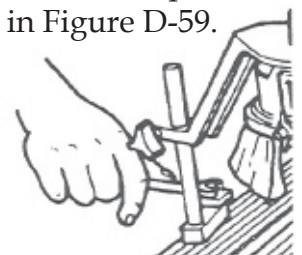

Figure D-59
- Place the guard assembly's base clamp to the right rear edge of the worktable and tighten the knob on the bottom of the clamp with a 9/16" wrench, as shown in Figure D-59.